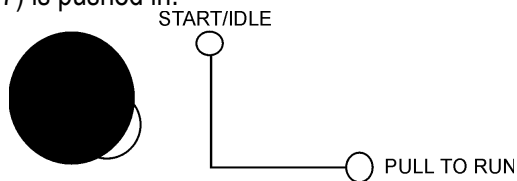

Figure 17. Engine Throttle Lever
6. Check to see if the engine throttle lever (Figure 17) is pushed in.